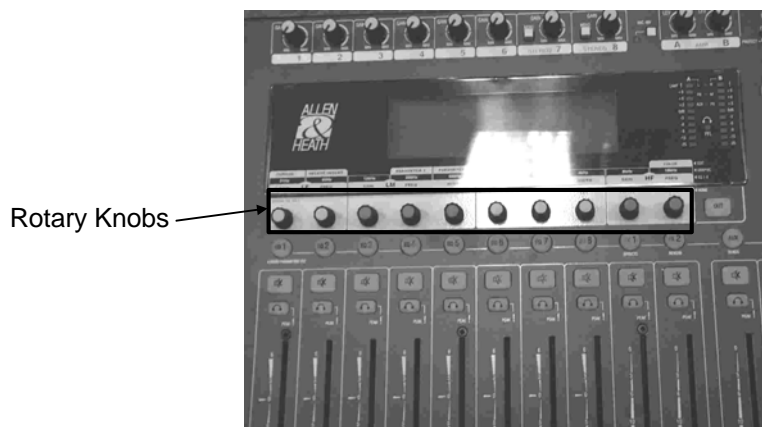

fig.13
- 1) Remove the 10 rotary encoder knob caps (see fig.13)